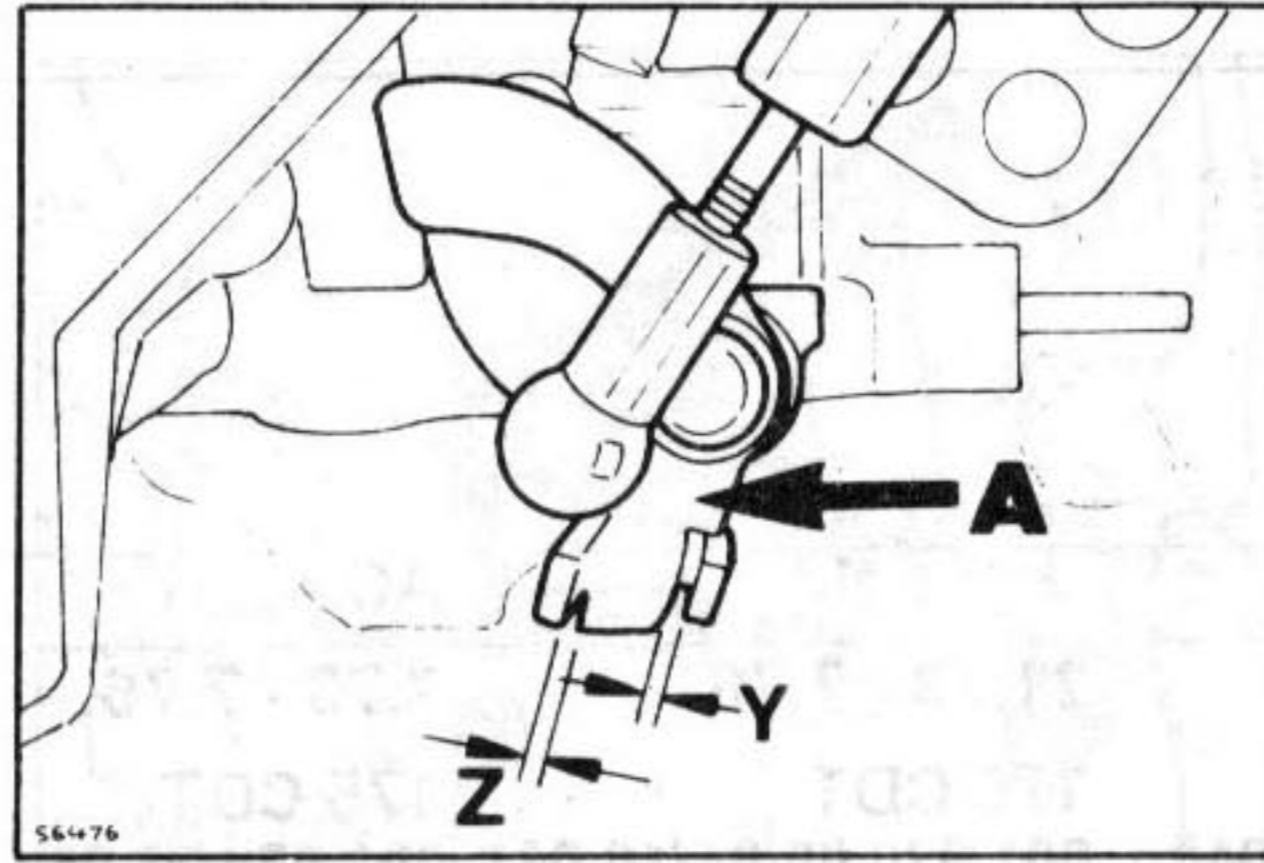

Fig. 6 Interlock - Stage II
- d) Measure gaps Y and Z at narrowest point (Fig. 6).
- d) If outside specified limits, adjust by carefully bending fork (A, Fig. 6).